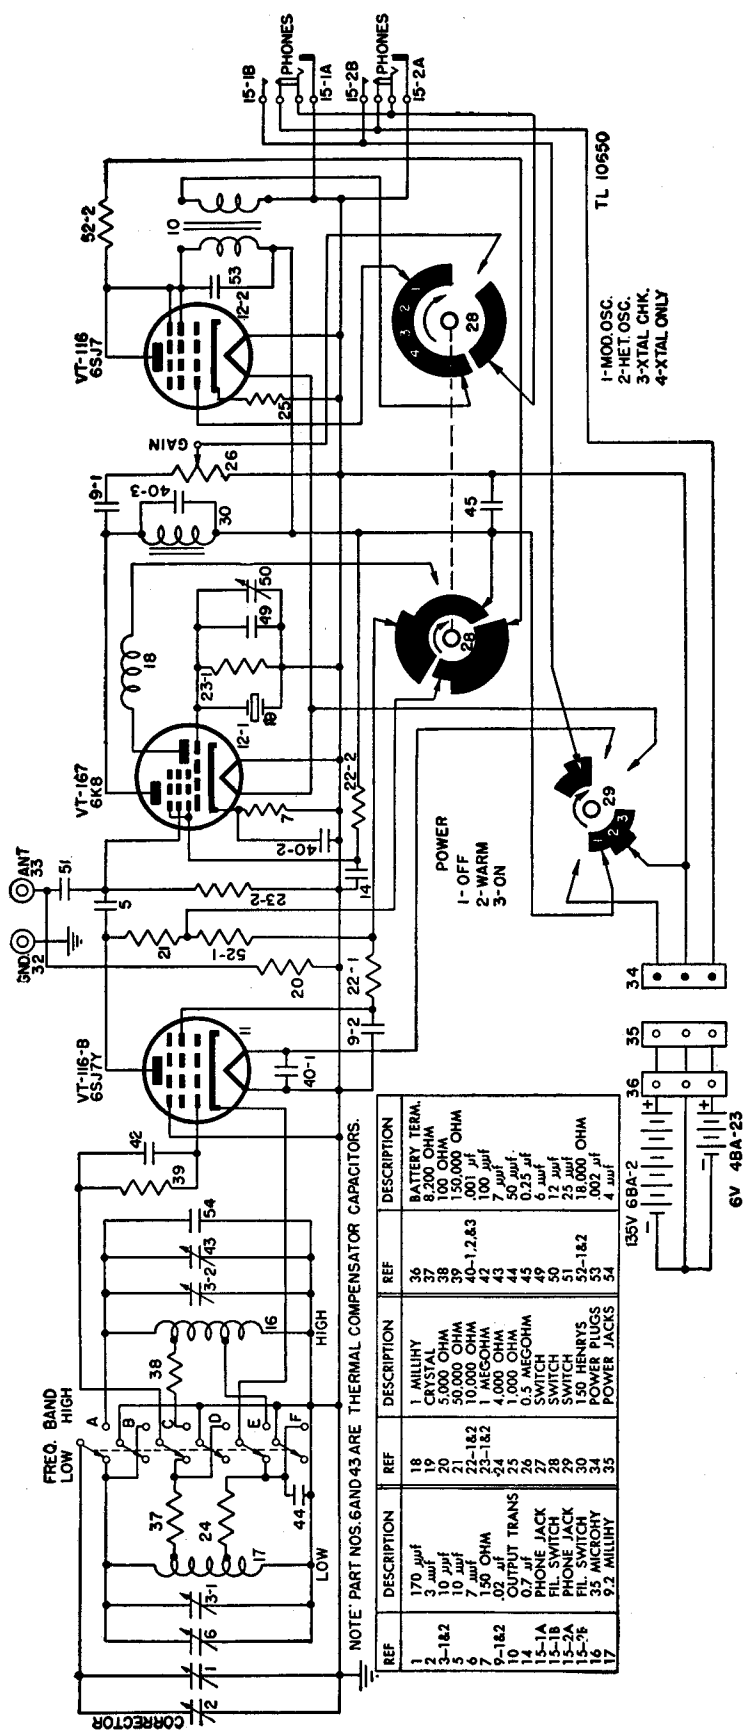

Figure 99. Frequency Meter BG-221-AJ, schematic diagram.
ulator circuit. The POWER switch has three positions instead of the two positions formerly used. At the third position of the POWER switch, WARM-UP, only the filament of variable frequency oscillator Tube VT-116-B (6SJ7Y) draws current. (See figs. 99 and 100.)
e. **OSCILLATOR FUNCTION.** (1) The variable frequency oscillator circuit is in operation whenever the POWER switch 29 is in the ON position, the operation switch 28 is in the MOD. OSC., HET. OSC., or XTAL CHK position, and a headset is plugged into a PHONES jack. (See figs. 99 and 100.)
(2) At the XTAL CHK position of the operation switch 28, the output of oscillator Tube VT-116-B (6SJ7Y) is applied to the No. 3 grid of the hexode section of detector-converter Tube VT-167 (6K8) where it is mixed with the output frequency of the crystal circuit. The result is a frequency equal to the difference of the two, and is used to adjust the frequency of the oscillator by means of the CORRECTOR control.
(3) At the HET. OSC. position of the operation switch 28, the variable frequency oscillator is in operation while the crystal oscillator is not. If the antenna is in position, the frequency meter may be used to receive or send any frequency in its range; that is, it may be used as a radio receiver or transmitter.
(4) At the MOD. OSC. position, the variable frequency oscillator is in operation, while the audio amplifier-modulator circuit is changed to operate as an audio-frequency oscillator and modulator in order to modulate the variable frequency oscillator at a frequency of approximately 400 cycles. If the antenna is in position, the frequency meter may be used to send any frequency in its range modulated at the frequency of 400 cycles, but it cannot be used as a receiver since the audio-frequency amplifier tube has been converted to an audio-frequency oscillator and the headset has been disconnected by the operation switch.
328. Power Supply Circuit (figs. 99 and 100)